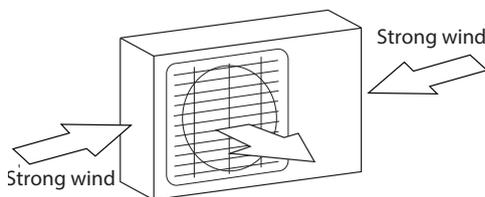

Fig. 6.1
- ☑ If the location is exposed to strong winds (for example: near a seaside), the unit must be placed against the wall to shelter it from the wind. If necessary, use a windbreak (or similar) (See Fig. 6.1 & 6.2)